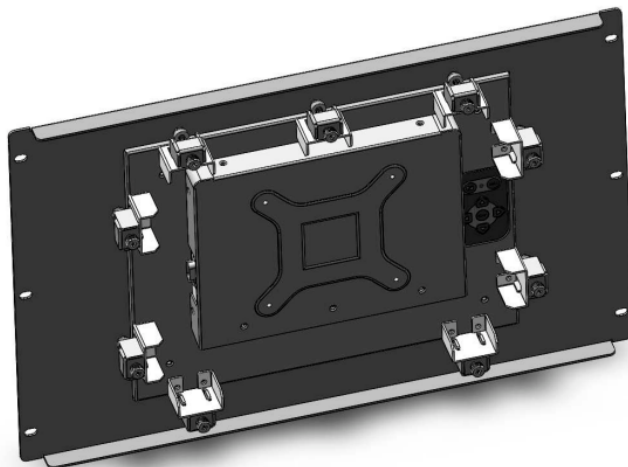

Figure 3-30: Secure the Rack/Cabinet Bracket
Step 2: Secure the rack mounting holders to the rear of the monitor and insert the mounting clamps into the pre-formed holes of the mounting holders (Figure 3-30).
Step 3: Tighten the screws that pass through the rack mounting clamps until the plastic caps at the front of all the screws are firmly secured to the bracket (Figure 3-30).